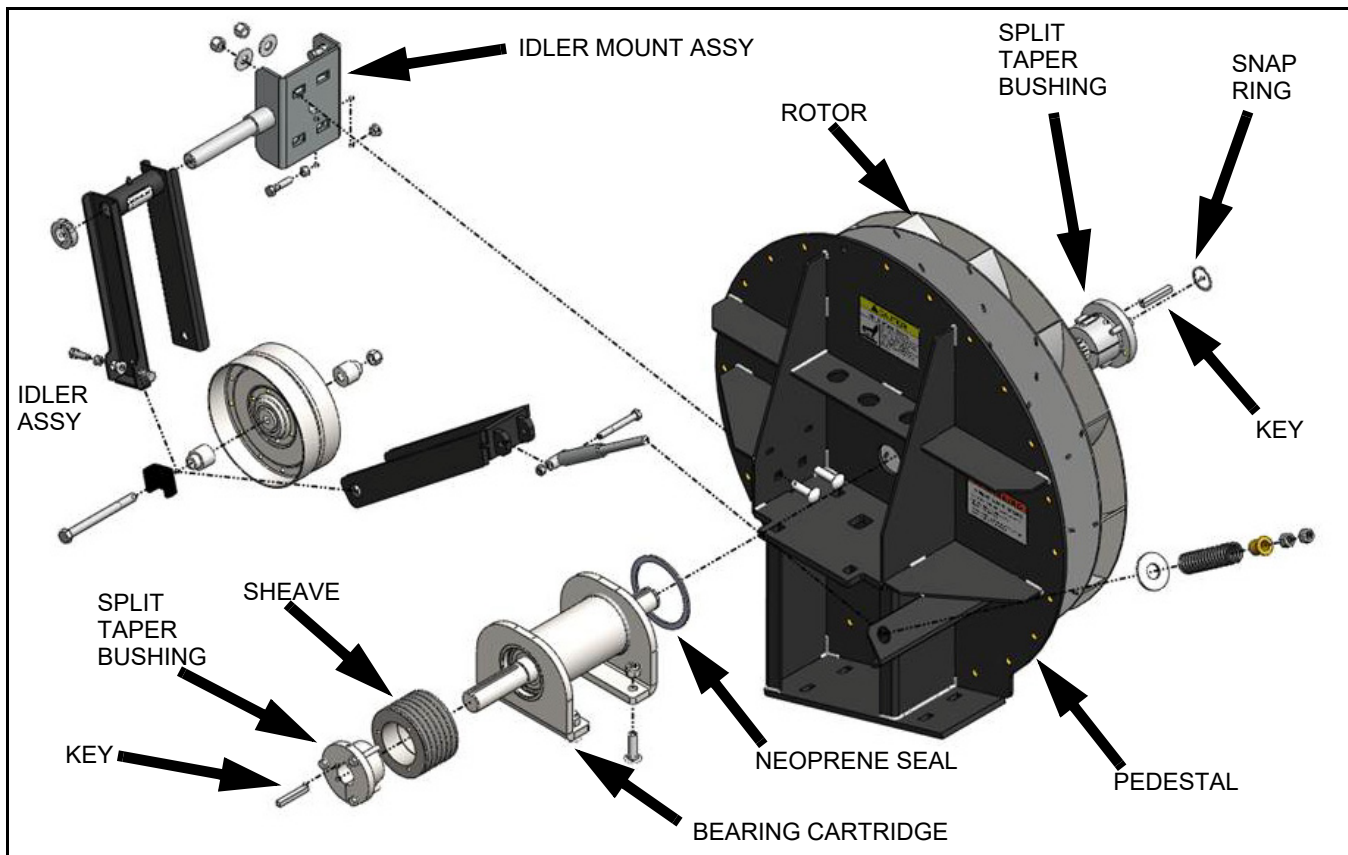

Figure 6.14 Pedestal/Rotor Assembly
1. Remove the snap ring from the rotor on the rotor drive shaft (see Figure 6.14).